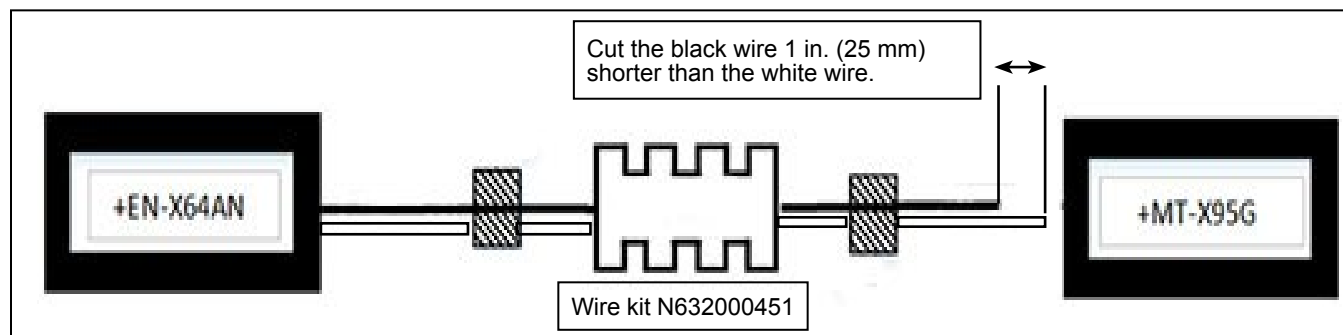

Figure 7 - N632000451 Wire Kit Modification
- 1.13. On the +MT-X95G connector side of wire kit N632000451, cut terminals on the black and white wires. Cut the black wire need 1 in. (25 mm) shorter than the white wire. See Figure 7.